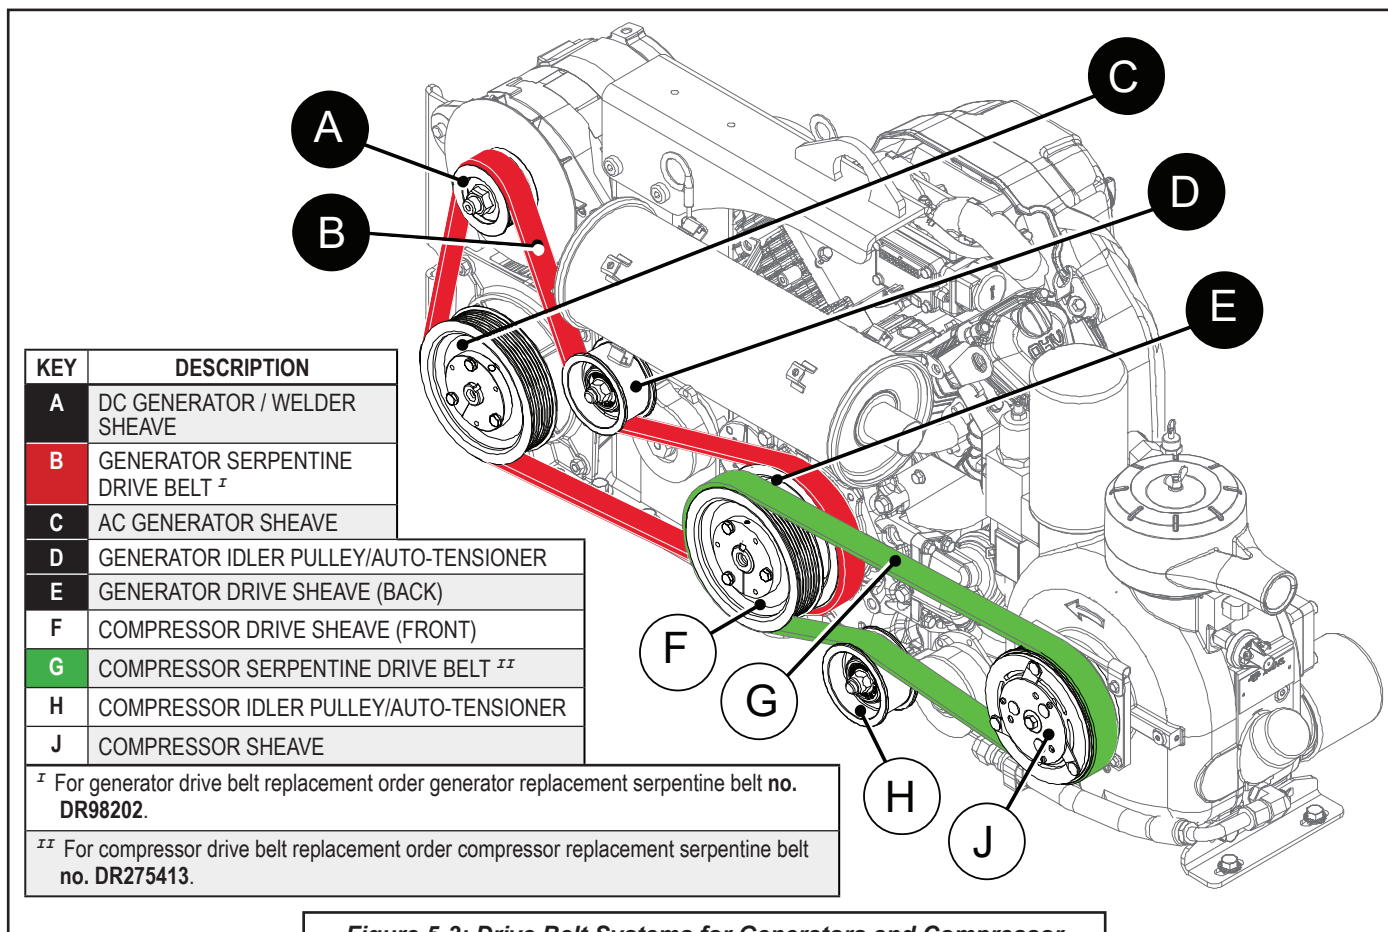
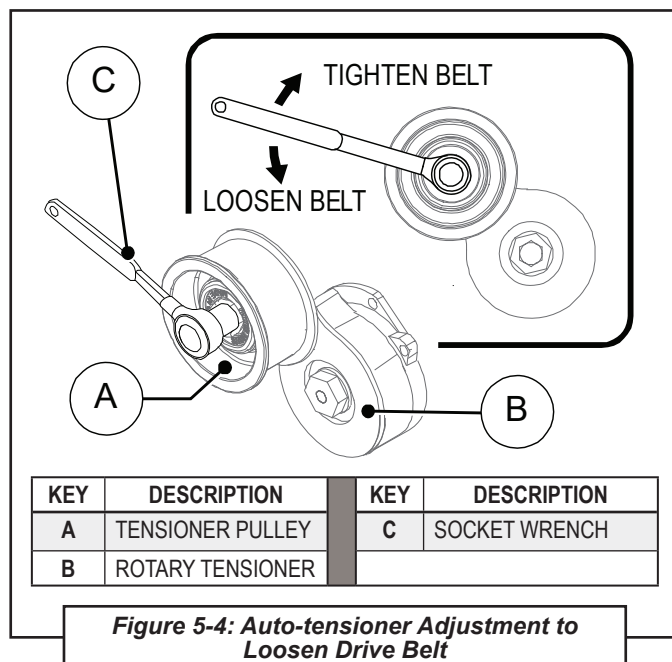

Figure 5-3: Drive Belt Systems for Generators and Compressor
Figure 5-4: Auto-tensioner Adjustment to Loosen Drive Belt
Refer to **Figure 5-3**. The compressor and generator are driven by the engine using two belts. The belts will generally not need replacement during the service life of the compressor system. However, over time they may become loose and need to be tightened. The proper tension can be determined by using a tension tester to measure the deflection from a given force.
To replace the air compressor serpentine belt consult **Figures 5-3, 5-4**, and the following procedure:
Refer to **Figure 5-4**. The drive belt circuit for both the compressor and generator drive systems are kept snug for traction by an auto-tensioner for each belt. To temporarily loosen a belt enough to remove it, place a socket wrench onto the auto-
1. With the compressor auto-tensioner held in the “down” (loose belt) position, as shown in **Figure 5-4**, position and route a new air compressor serpentine belt onto the proper driver tracks as shown in **Figure 5-3**, making sure that it goes on the outside driver of the double sheave track of the engine driveassembly. Also note that the grooved side of the drive belt goes on the inside of the belt for traction with the drive pulleys.
The compressor drive belt must first be removed in order to access the generator drive belt. Refer to **Section 5.4.2.1** for compressor serpentine belt removal. Once the compressor drive belt is removed, the worn generator serpentine belt can be replaced. Refer to **Figures 5-3** and **5-4**, and
1. Locate the generator auto-tensioner in **Figure 5-3 [D]**. Using a socket wrench, apply pressure downward to loosen the belt tension (as per **Figure 5-4**).
3. Obtain a replacement belt and ensure that the grooved side of the belt runs on the inside to directly contact the drive pulleys, then position and route the new generator serpentine belt as shown in **Figure 5-3**. Note that the auto-tensioner will need to be positioned with the aid of the socket wrench in order to allow the belt to fit to the generator drive system.